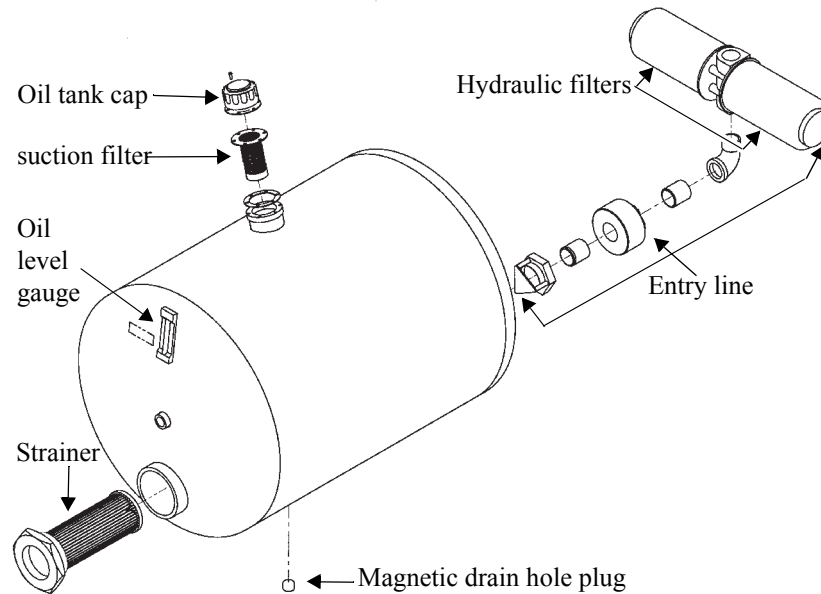

Figure 35 - Location of oil tank parts
5. Place an empty container (90 US gallons (340 liters)) under the drain hole of the tank to catch the oil (see *Figure 35 on page 89*).
6. Unscrew the drain hole's magnetic plug and let the oil drain completely from the tank (see *Figure 35 on page 89*).
7. Place an empty container (90 US gallons (340 liters)) under the drain hole of the tank to catch the oil (see *Figure 35 on page 89*).
8. Unscrew the drain hole's magnetic plug and let the oil drain completely (see *Figure 35 on page 89*).
1. Remove the cap on the top of the oil tank (see *Figure 35*, below).
2. Lift out the suction filter located just under the cap (see *Figure 35*, below).
4. Unscrew and remove the strainer located on the side of the oil tank (see *Figure 35*, above).
6. Use a pipe wrench to disassemble the entry line (see *Figure 35*, above).
- Reach inside the tank through the strainer hole on one side (see *Figure 35*, above),
- Reach inside the tank through the entry line hole on the other side (see *Figure 35*, above).
11. Clean the magnetic plug with a rag and solvent and screw it back into the drain hole on the bottom of the oil tank (see *Figure 35*, above).